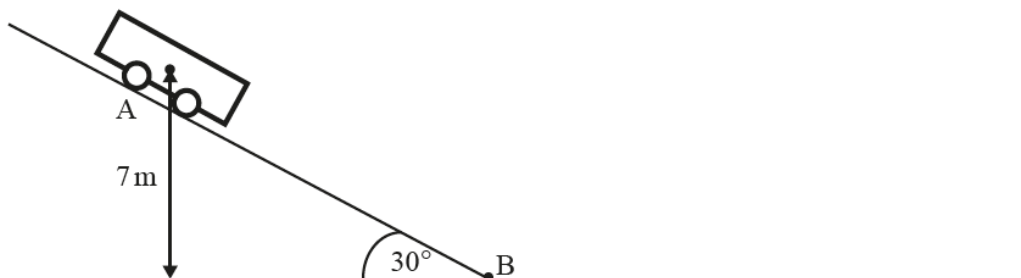

Fig. 2
- 2 (a) Fig. 2 shows a parked vehicle of mass 1000 kg on a slope at a height of 7 m above a surface.